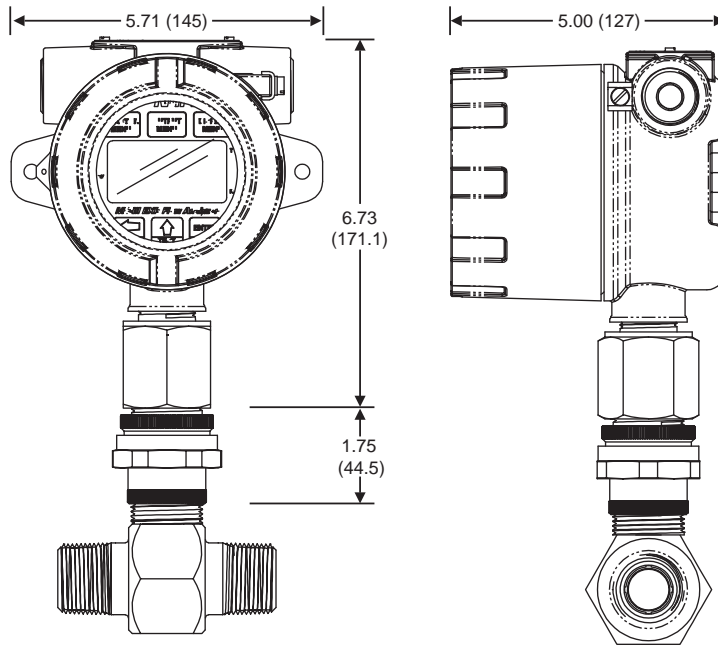
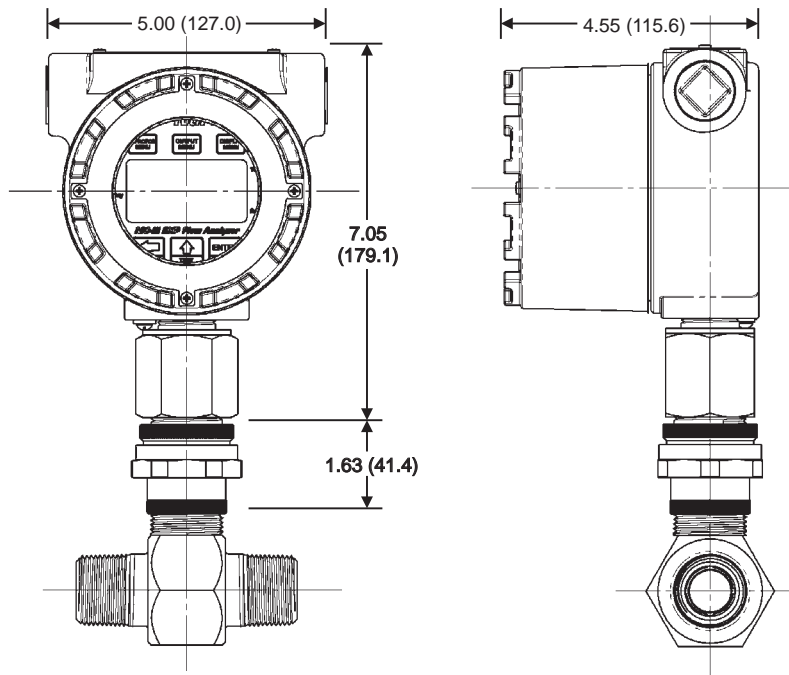
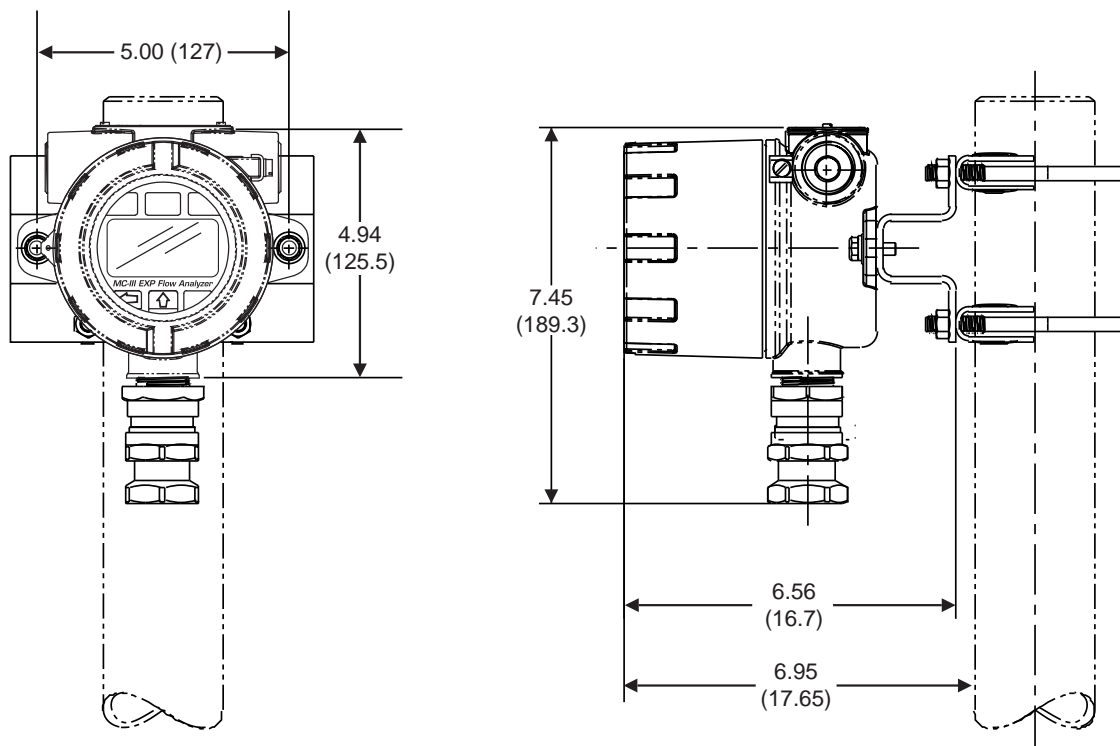

Figure 2.5—Direct mount (standard MC-III EXP enclosure) to NuFlo turbine meter with pipe reducer and union (CSA)
Figure 2.6—Direct mount (alternate MC-III EXP enclosure) to NuFlo turbine meter with pipe reducer and union (CSA)
Figure 2.7—Remote mount on a 2-in. pole using a NuFlo hardware kit (Part No. 9A-30028004)
The CSA-approved MC-III EXP is available in either of two enclosure styles. The standard enclosure shown on the cover of this manual and in Figure 2.5, page 18, features integral mounting holes on either side of the enclosure, allowing it to be mounted to a flat bulkhead.
The alternate enclosure (Figure 2.6, page 18) does not have the bulkhead mounting holes on the sides. Another distinguishing feature is the bright red ring that frames the display window. The alternate enclosure is slightly taller than the standard enclosure.
The MC-III EXP may be mounted directly to a flowmeter, or mounted remotely on a pole and connected to a flowmeter with explosionproof signal cable. The type of meter mount required varies with the meter in use. See Figure 2.5 through Figure 2.7 for installation dimensions.
- Mount the device to a NuFlo turbine meter or a Barton 7000 Series turbine meter. A CSA-approved pipe reducer and union connector is required (Figure 2.5, page 18). Figure 2.6, page 18, shows the same installation with the alternate MC-III enclosure.
- Remote-mount the device to a 2-in. pole using a NuFlo hardware kit (*Figure 2.7, page 19*). Pole mounting may be preferred where limited space or pipe vibration prohibits direct-mount installation. For best results, install the device as near as possible to the meter to minimize the length of explosionproof signal cable that must be used for communications. Stranded, shielded cable is recommended.